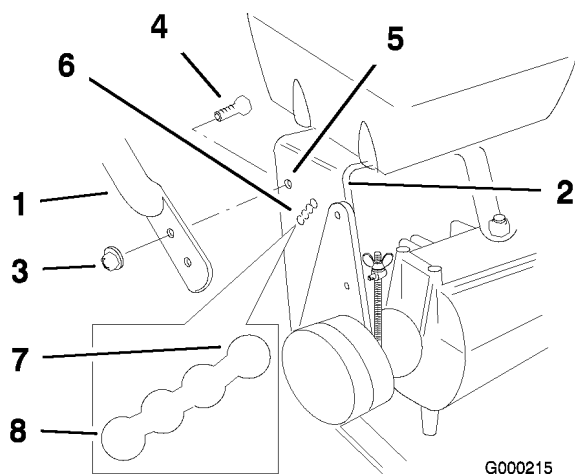

Figure 27
2. Loosen the upper flange bolts ($3/8 \times 1$ inch) and flange nut securing handle to rear frame (Figure 27).